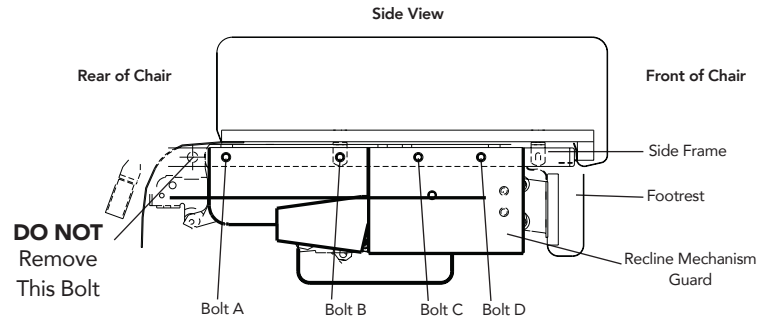

FIGURE 5.3 Replacing the Recline Mechanism Guard
NOTE: For this procedure, refer to **FIGURE 5.3**.
4. Remove four existing bolts A, B, C, and D from side frame as shown in **FIGURE 5.3**.